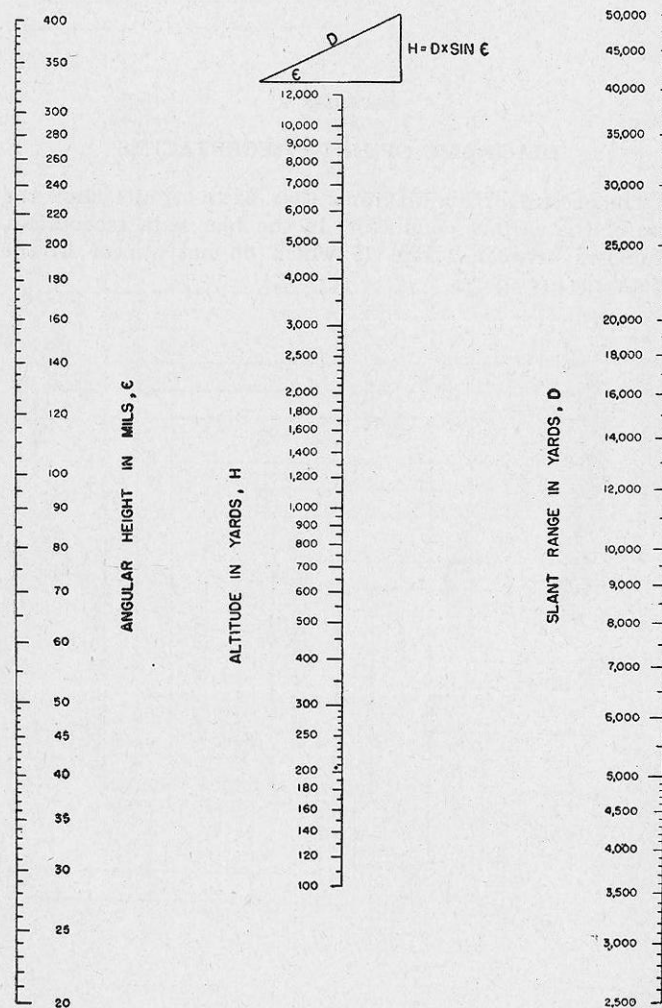

FIGURE 61.—Nomograph range conversion chart.
■ 3. NOMOGRAPH TYPE.—*a.* This chart (fig. 61) has the distinct advantage of requiring considerably less space than the pivoted arm type. It is used by connecting a known slant range and angular height with a straightedge and reading altitude on the middle scale at the crossing point. Its accuracy, in the size shown here, may not be as great as desired, but accuracies of the order required are obtainable by construction of a larger chart. Paragraph 4 outlines the steps in construction of the chart. The limits chosen may be varied to suit particular cases.